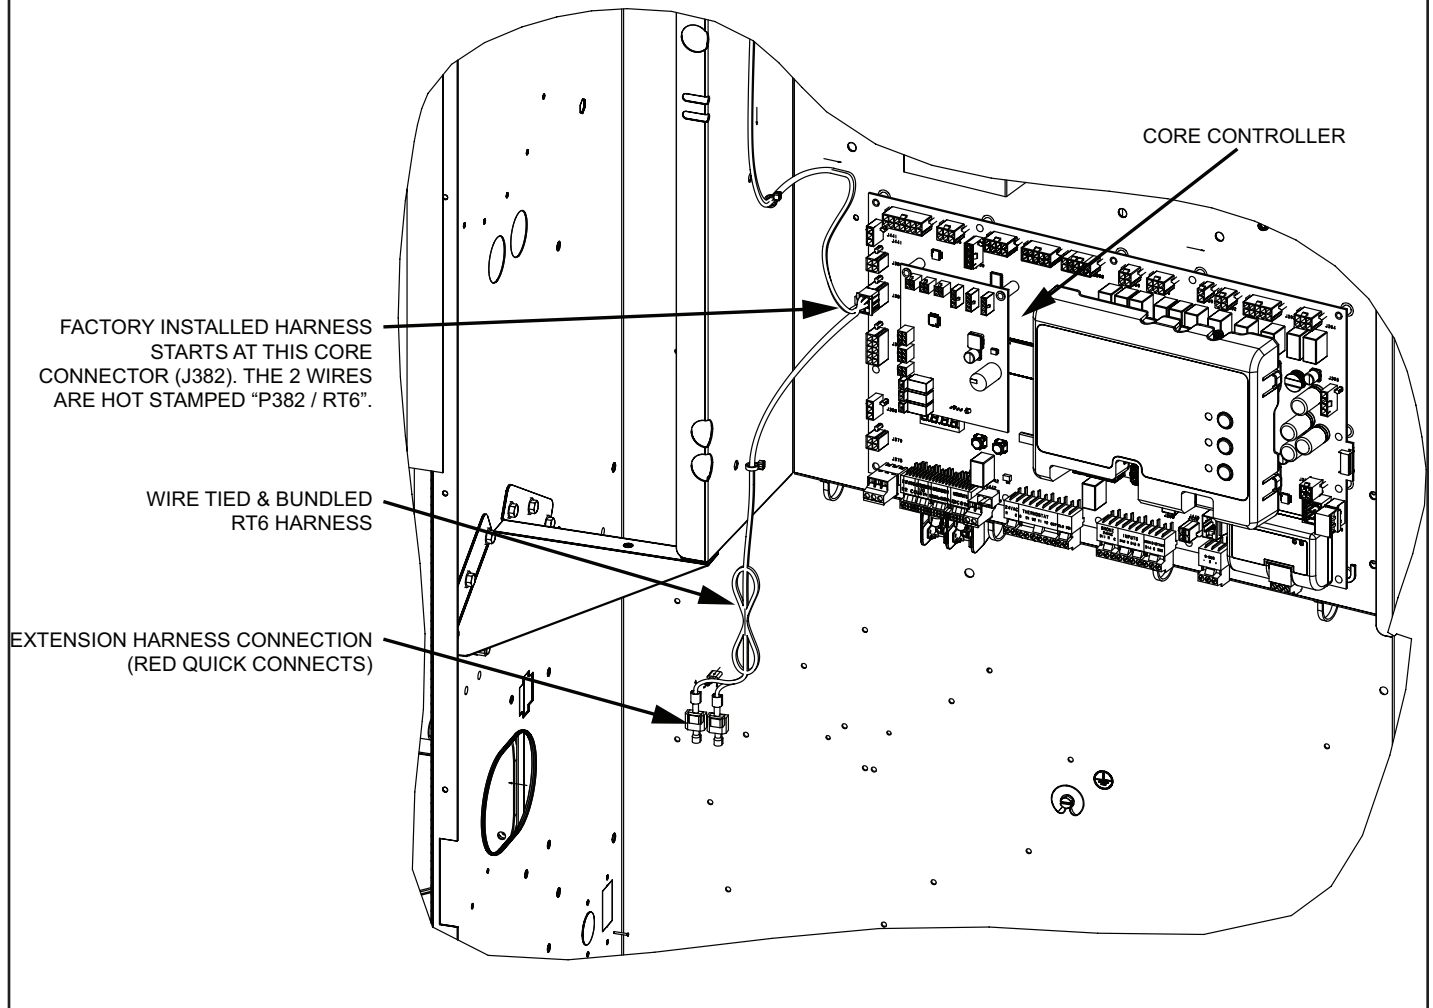

FIGURE 3
- 2 - Locate bundled factory installed RT6 harness end (2 red quick connects). Refer to FIGURE 3.